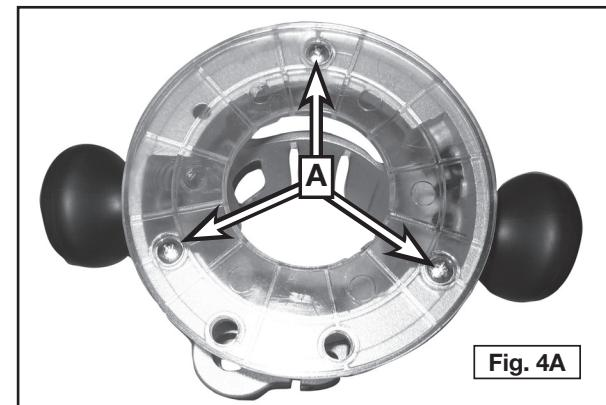
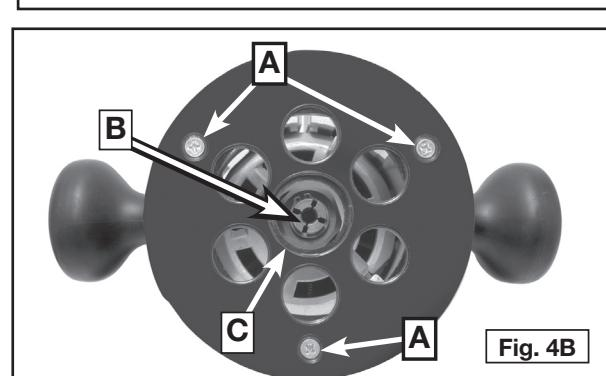

Fig. 4A
Fig. 4B
1. Remove the standard large-hole sub-base by removing three screws (A) Fig. 4A. Replace with accessory sub-base (Fig. 4B), but do not fully tighten screws (A).
2. Open the clamp and adjust the power unit so that the collet nut (A) engages the center hole in the sub-base (C). Allow the sub-base to center itself on the collet nut. Close the clamp.
3. Tighten the sub-base mounting screws (A) Fig. 4B securely.